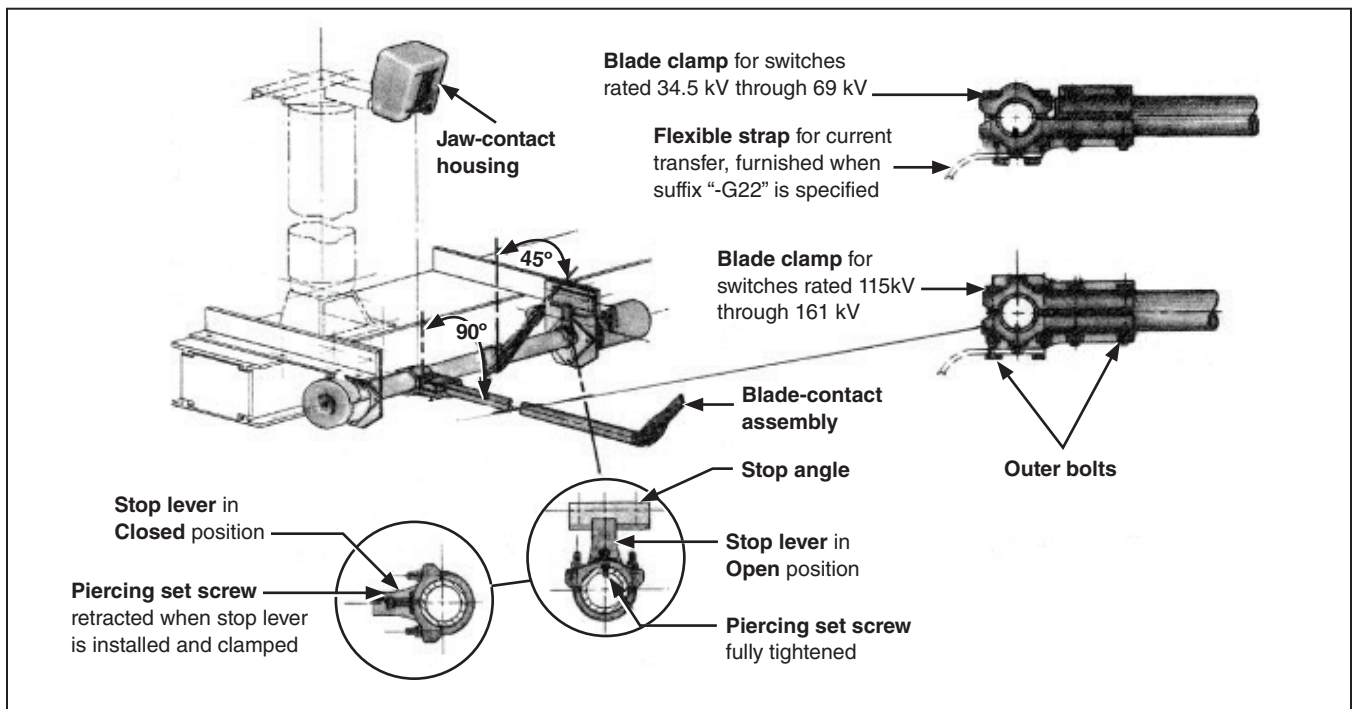

Figure 4. Pole-unit in Open position.
- (e) With the grounding switch in the **Open** position as seen in Figure 4, use the interlock bolt to position the locking disc so the bolt enters the Open-position slot in the disc. Hold the locking disc 3/8-inch (9.5 mm) below the interlock
- STEP 7.** Place the grounding switch blades in their fully **Open** position and check the stop levers on the drive shafts. For this blade position (approximately 90 degrees from the fully **Closed** position) each stop lever should lie against its Open stop. See Figure 4 on page 11. For any stop lever requiring adjustment, loosen the U-bolt on the stop lever, position the lever against the Open stop, and re-tighten the U-bolt to final tightness. Then tighten the piercing set screw, piercing the pipe, and continue turning until a firm resistance is felt.
drive shafts. For this blade position (approximately 90 degrees from the fully **Closed** position) each stop lever should lie against its Open stop. See Figure 4 on page 11. For any stop lever requiring adjustment, loosen the U-bolt on the stop lever, position the lever against the Open stop, and retighten the U-bolt to final tightness. Then tighten the piercing set screw, piercing the pipe, and continue turning until a firm resistance is felt.